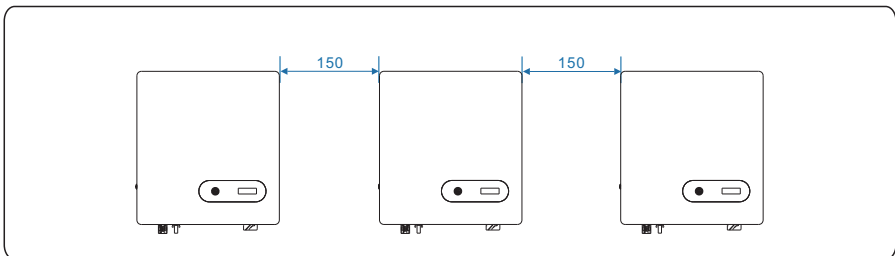
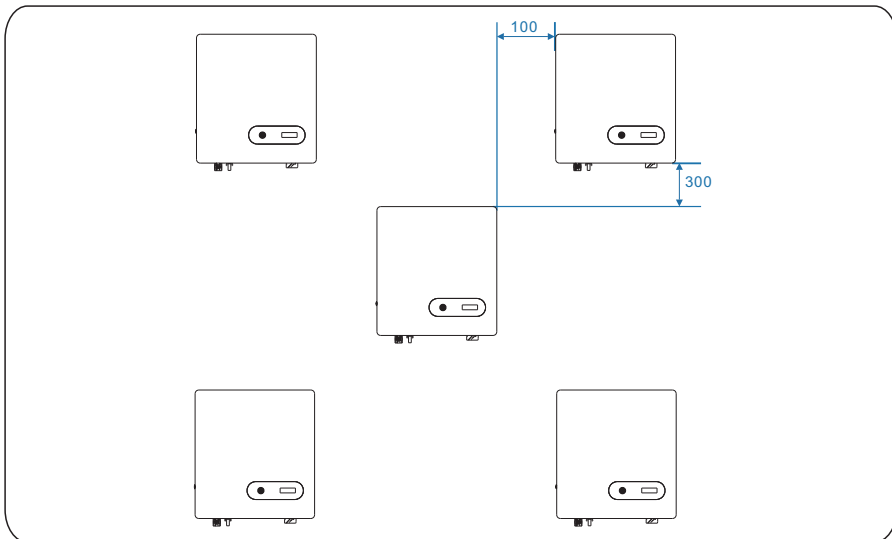
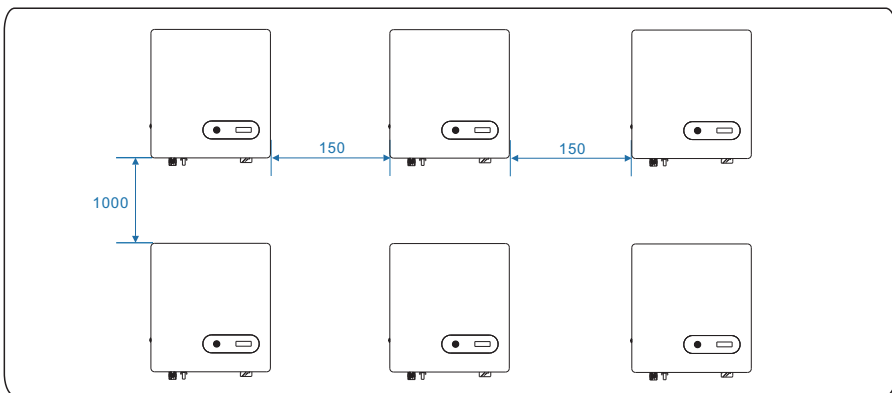

Figure 4.5 Installation along the same line (unit: mm)
Figure 4.6 Installation in triangle mode (unit: mm)
Figure 4.7 Installation in stacked mode (unit: mm)
- c. When installing multiple inverter, install them along the same line (as shown in Figure 4.5) if sufficient space is available, and install them in triangle mode (as shown in Figure 4.6) or in stacked mode (as shown in Figure 4.7) if no sufficient space is available. The installation modes ensure sufficient space for installation and heat dissipation.